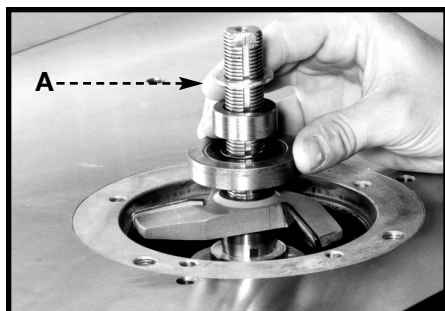

Fig. 16
1. Two 1-1/4" I.D. washers are supplied with the 6-1/2" spindle guard. Place one of the washers (A) on the spindle (Fig.16).